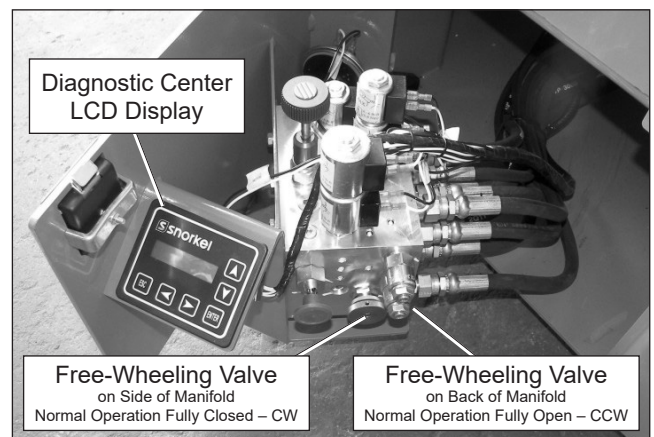

Figure 8.7 – Control Valve Tray
1. Inspect all hydraulic hoses, tubes, and fittings for wear, leakage, or damage (refer to Figure 8.7).
The free-wheeling valve is on the hydraulic manifold in the control valve tray. On some manifolds the valve is on the side and on others it is on the back (refer to Figure 8.7).
To test the diagnostic center display in the control valve tray (refer to Figure 8.7), from the lower controls: